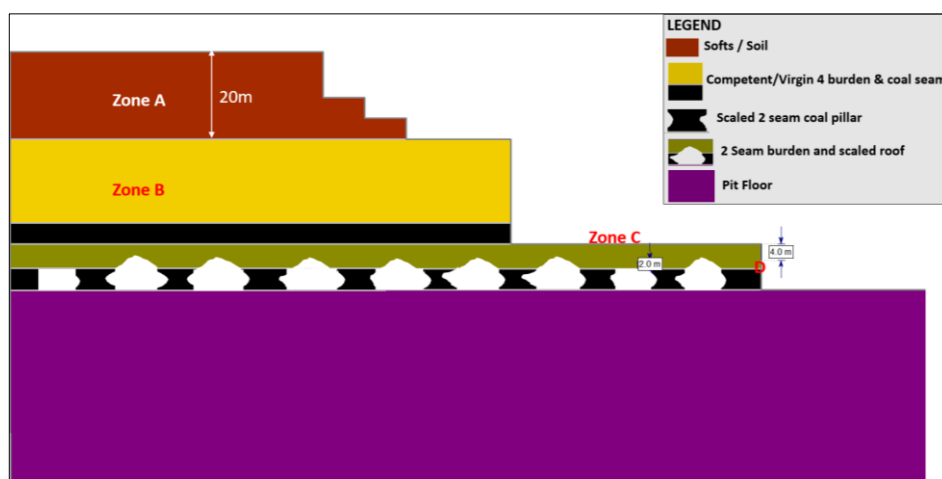

Figure 5-1: Strip mine layout.
- 5.1. **Figure 5-1** depicts a cross section layout of an opencast coal strip mine with various zones. The No.2 coal seam was previously mined out using bord and pillar method. Scanning of the old workings indicates roof falls of up to 2m, resulting in approximately 4m beam below the working bench.